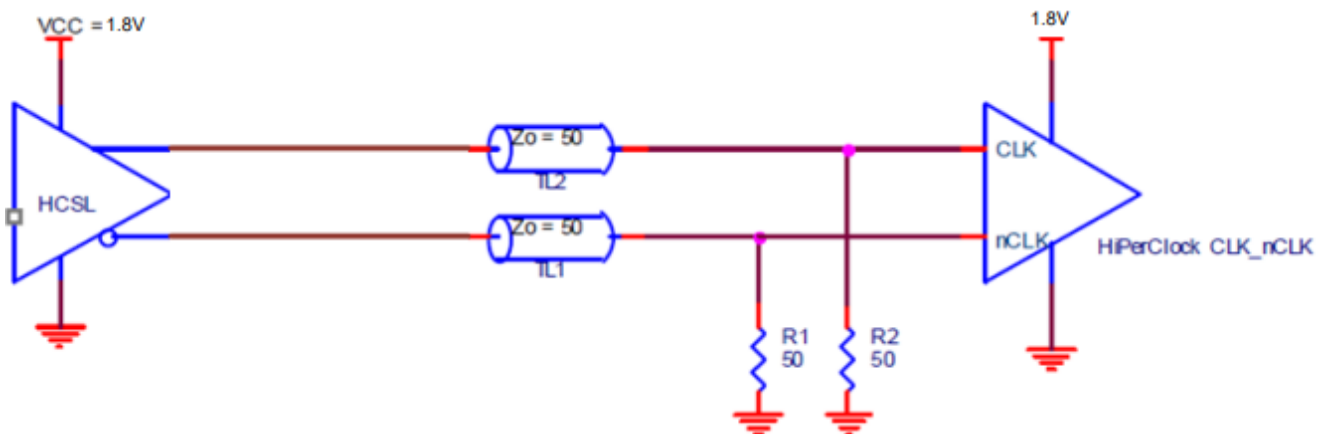

Figure 3. HCSL Common External Termination
- Figure 3. HCSL Common External Termination2
Figure 3 shows a common standard HCSL external termination scheme. It uses 50Ω pull-down resistors.